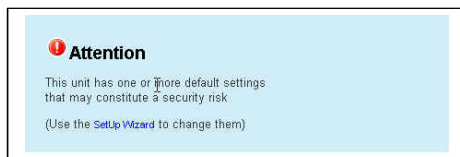

Figure 22 - Attention sub-window
1. Select “Setup Wizard” on the top-level menu list, or click the link on the “Attention” sub-window (Figure 22) above.